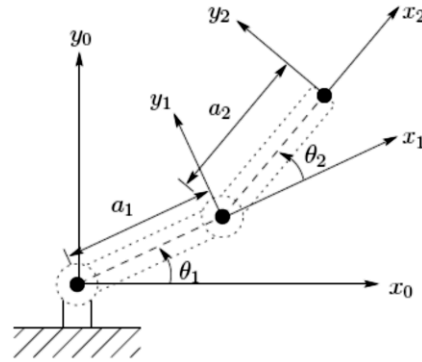

Figure 2
2. Consider the two-link planar arm of Figure 2. The joint axes z_0 and z_1 are normal to the page. The established base frame $x_0y_0z_0$ is as shown. The origin is chosen at the point of intersection of the z_0 axis with the page and the direction of the x_0 axis is completely arbitrary. Once the base frame is established, the $x_1y_1z_1$ frame is fixed as shown by the DH convention, where the origin, o_1 has been located at the intersection of z_1 and the page. The final frame $x_2y_2z_2$ is fixed by choosing the origin, o_2 at the end of link 2 as shown. Write the DH parameters and its corresponding transformation matrices.
1. Develop a dynamic model for two degree of freedom manipulator as shown in figure 2.